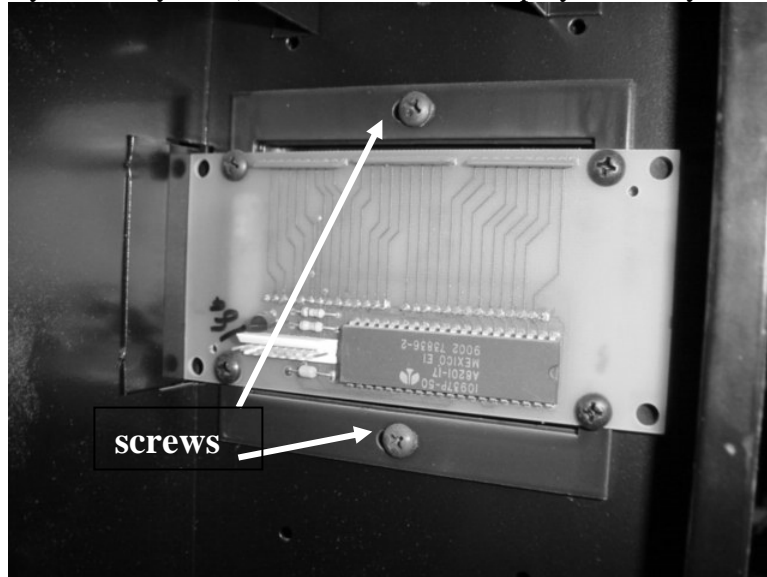

Figure 10
8. Remove existing display harness then remove the 2 screws shown in Figure 10 (save these screws to install the new display assembly later). Remove the old display assembly.